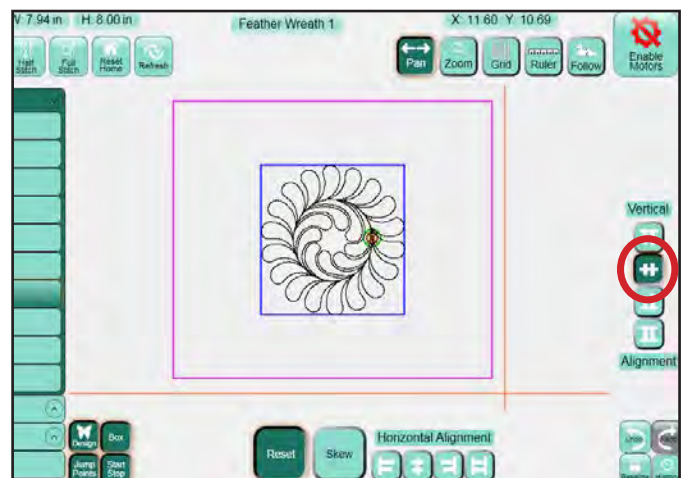

Figure 5.68
**Align Vertical Center:** (*Figure 5.68*) The vertical center of the design's bounding box aligns with the vertical center of the **Area**.